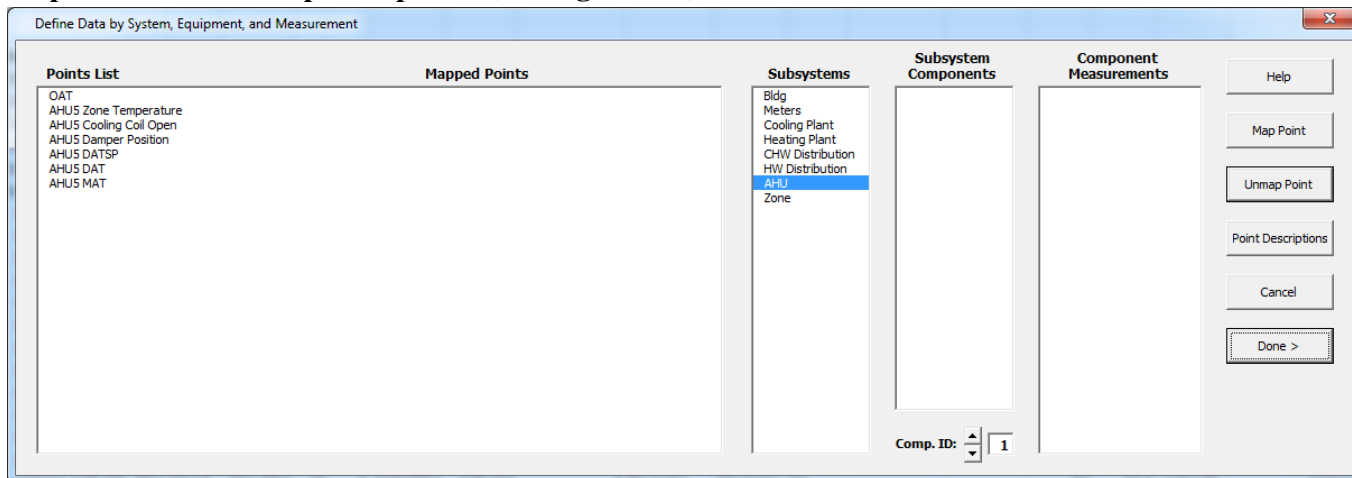

Figure 2-7: ECAM+'s Definition of Points window.
After selecting “OK,” a new window will come up where the user defines or “maps” the points (see Figure 2-7 below). The first part of the window will have the “Points List” and “Mapped
Step 3: Define or “map” the points (see Figure 2-7)